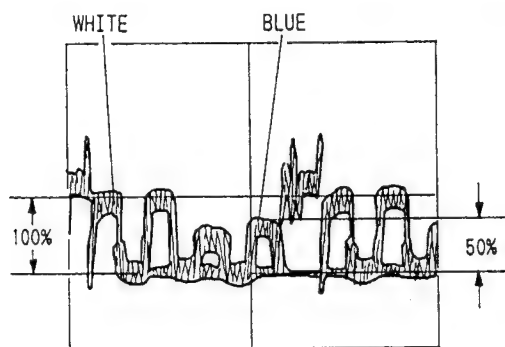

Fig. 4-7
9) Matrix Adjustment (Figs. 4-7, 4-52)